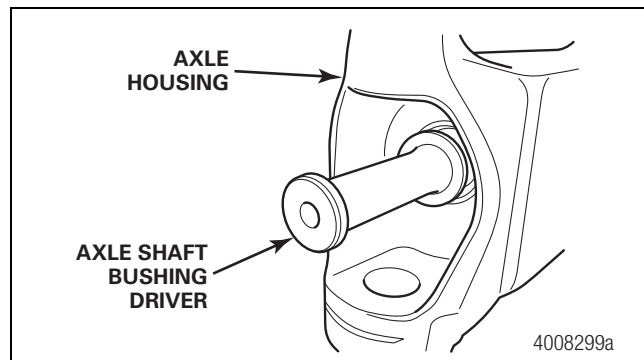

Figure 8.1
1. If removed, use driver 912078 DET-080 and a hammer to install the axle shaft bushing into the housing. Refer to Section 12 for a tool drawing. Figure 8.1.